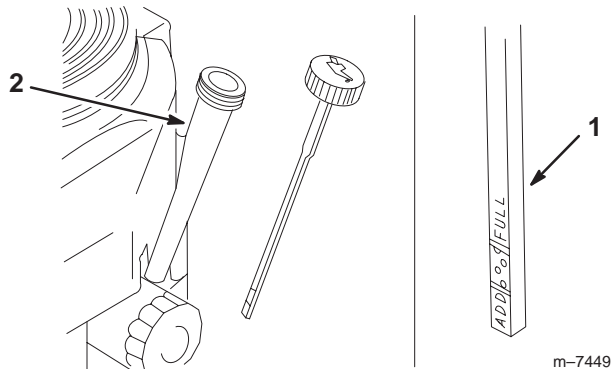

Figure 27
4. Clean around the oil dipstick (Fig. 27) so that dirt cannot fall into the filler hole and damage the engine.
5. Unscrew the oil dipstick and wipe the end clean (Fig. 27).
6. Slide the oil dipstick fully into the filler tube, but do not thread onto tube (Fig. 27).
8. Slowly pour approximately 80% of the specified oil (refer to Service Interval/Specification, page 28) into the filler cap (Fig. 27).